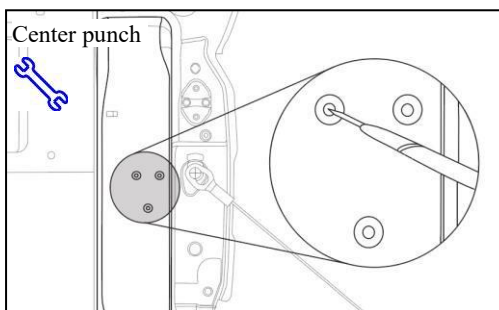

Fig. 1-1
(1) Locate the thread mounting holes on the passenger side D-Pillar.
(2) Using the center punch, carefully mark the center of the three mounting holes (Fig. 1-1).